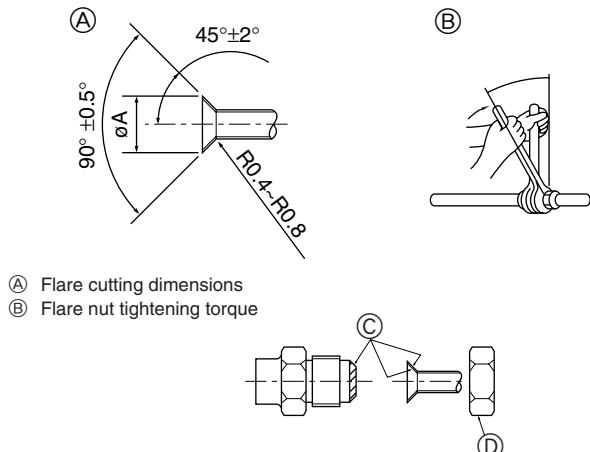

Fig. 4-1
Table 1 (Fig. 4-1)
4.2. Connecting pipes (Fig. 4-1)
- Apply thin layer of refrigerant oil to pipe and joint seating surface before tightening flare nut. (A)
- Use two wrenches to tighten piping connections. (B)
- Apply refrigerating machine oil over the entire flare seat surface. (C)
- Use the flare nuts as attached to the unit. (D)
- ① Pipes must be connected starting from the indoor unit.